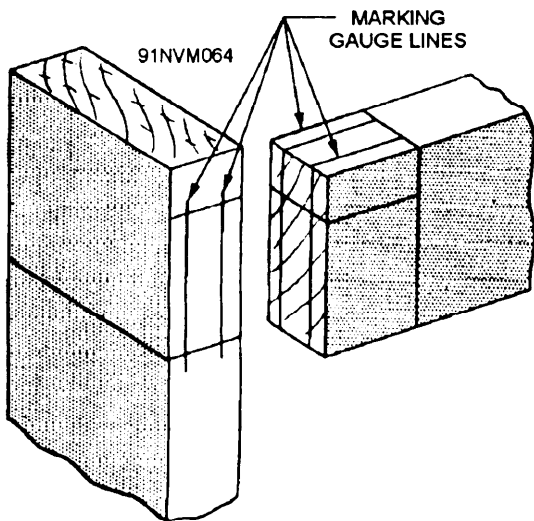

Figure 3-38.—Layout of a stub mortise-and-tenon joint.
4. Then, lay off the total width of the tenon member on the mortise member, as shown in figure 3-38.
6. Use a marking gauge to mark two lines (fig. 3-38). If the faces of the members are to be flush, use the same gauge setting to score a double line on the mortise member. Remember to gauge from the face of the member. If the face of the tenon member is to be set back from the face of the mortise member, you should increase the mortising gauge setting by the amount of the setback.